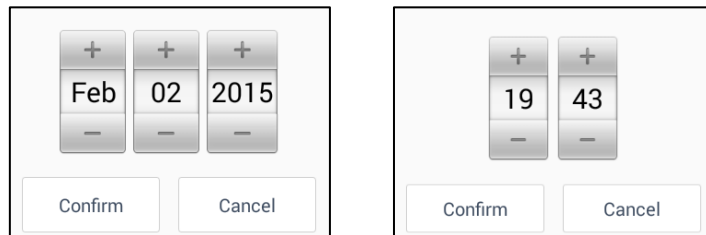

Figure 3.12 Date and Time Configuration
- 1) Click  2015-02-02 > to set the current date as shown in Figure 3.12.
- 2) Click  9:26 > to set the current time as shown in Figure 3.12.